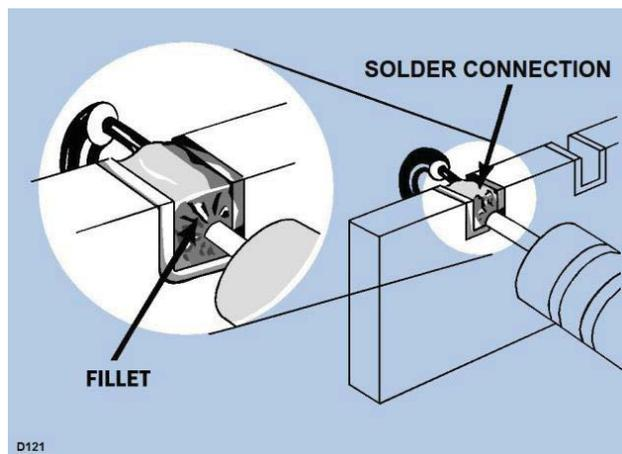
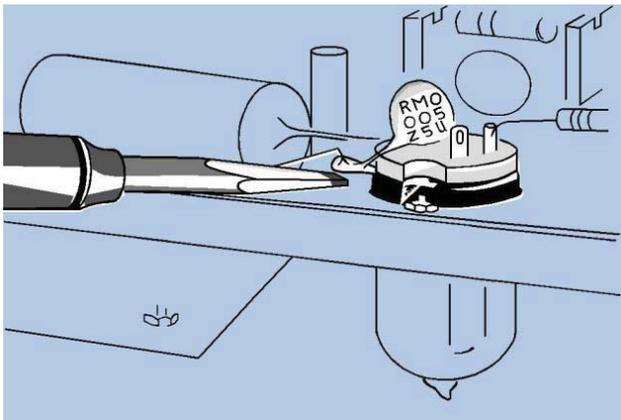

Fig. 4-3. Fillet on wire.
Fig. 4-4. Soldering to metal terminals.
6. Do not attempt to fill the notch on the strip with solder; instead, apply only enough solder to cover the wires adequately, and to form a slight fillet on the wire as shown in Fig. 4-3.
In soldering to metal terminals (for example, pins on a tube socket) a slightly different technique should be employed. Prepare the iron as outlined above, but tin with ordinary tin-lead solder. Apply the iron to the part to be soldered as shown in Fig. 4-4. Use only enough heat to allow the solder to flow freely along the wire so that a slight fillet will be formed as shown in Fig. 4-3.